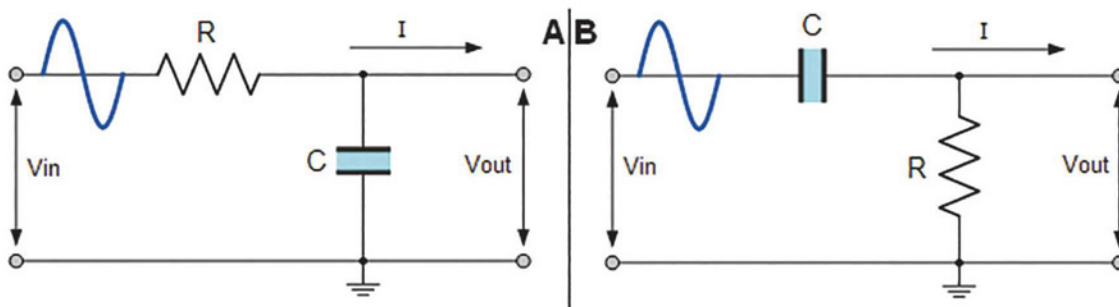

Figure 7: Simple RC low- and high-pass filters
**1. RC low-pass filter:** A common circuit to attenuate high-frequency components in an analog signal is the RC low-pass filter. Figure 7 (A) shows that  $V_{in}$  is the applied voltage and the voltage  $V_{out}$  across C is the output:
**2. RC high-pass filter:** A circuit that attenuates low-frequency components in an analog signal is called an RC high-pass filter, shown in Figure 7 (B). Notice that the circuit is similar to the one above, but  $V_{out}$  is now measured across R. The cut-off frequency point ( $f_c$ ) for a first-order high-pass filter can be found using the same equation as that of the low-pass filter, while the equation for the gain ( $A_v$ ) and phase shift ( $\phi$ ) is modified slightly to account for the positive phase angle as shown below: